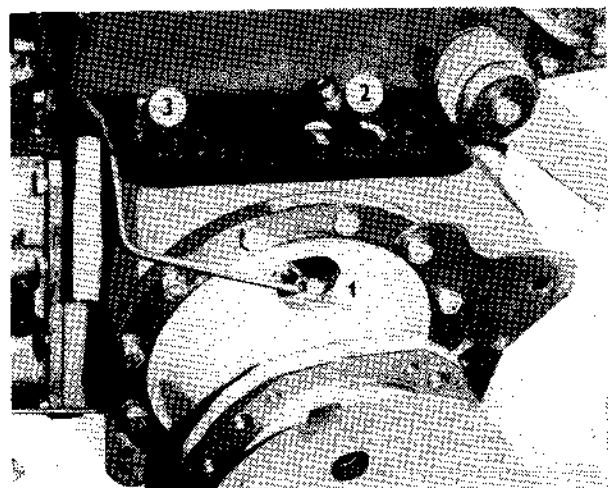

Fig. 34
Fill equalizer bowl (tank) with brake fluid and remove rubber cap (Fig. 34/1) from the brake cylinder bleeding screw. Slide the rubber cap onto the bleeding screw and immerge its other end into a transparent bowl partially filled with brake fluid. Then loosen the bleeding screw (plug), depress completely brake pedal and retighten the bleeding screw. Pedal may be released as late as after a duly screw retightening. Repeat the above procedure as long as brake fluid free of air bubbles starts escaping from the hose.
1. Unscrew the bolt fixing band guard (Fig. 34/3) and turn the guard.
3. Loosen lock nut (Fig. 34/2) and retighten band brake onto brake drum by means of a bottom nut.